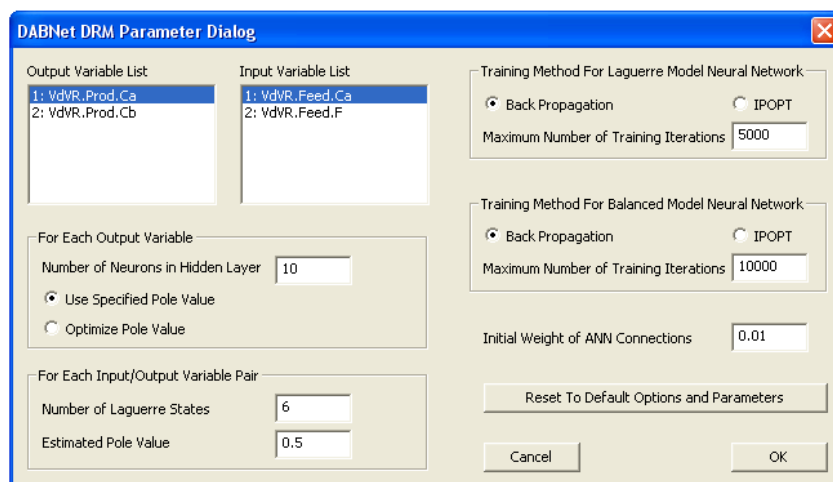

Figure 14: DABNet DRM Parameter Dialog Window
17. Build the DABNet model by issuing the **Build → Generate Reduced Model...** command or clicking  on the toolbar. The “DABNet DRM Parameter Dialog” window displays as shown in Figure 14.
2. Select the **Build → Generate Reduced Model...** command or click  on the toolbar. The “Result Plotting Dialog” window as shown in Figure 14 displays. This time select the “IPOPT” option in both the “Training Method For Laguerre Model Neural Network” section and the “Training Method For Balanced Model Neural Network” section. The IPOPT method can also be used to train the Laguerre model only and the BP method used to train the balanced model. Notice that the values in the text boxes of “Maximum Number of Training Iterations” of both sections have changed. These are the default values for the IPOPT training. Since the IPOPT method is much slower than the back propagation method, the default maximum iteration numbers set by the D-RM Builder are smaller. The user can increase the maximum iteration numbers. For this tutorial, keep the default numbers. Click “OK” in the window to start the model generation process. Text messages display in the client area of the main window. The mouse icon is switched from an arrow icon to a “busy” icon. Be patient since the process to training the neural networks is slow. Upon completion, a text message displays indicating that the D-RM has been generated and the mouse icon is switched back from the “busy” icon to